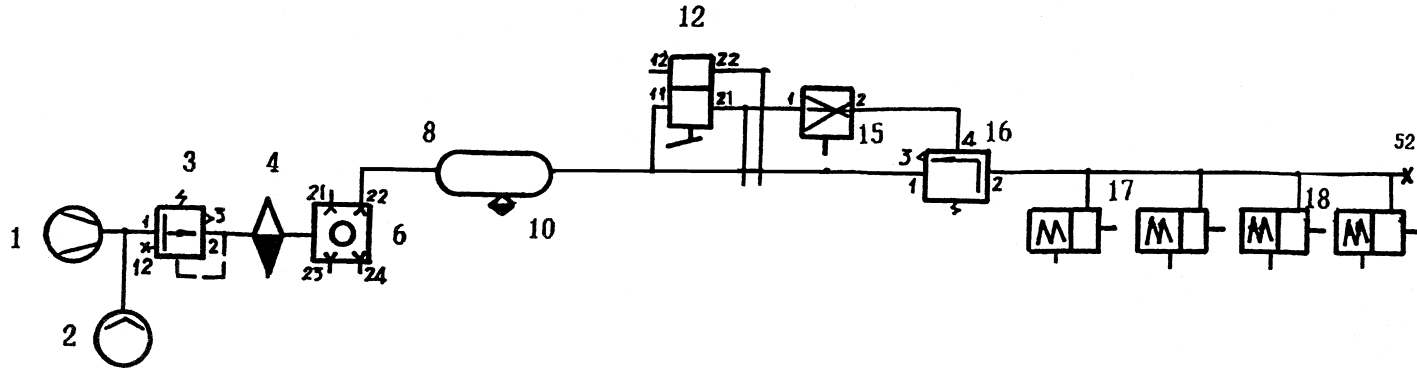

Fig. 12-29 (Intermediate) rear axle systematic sketch diagram
- For example, when depressing the brake pedal, the (intermediate) rear axle braking chamber does not work. You may check the system schematic diagram for (intermediate) rear axle braking system and the related components as shown in Fig. 12-29.